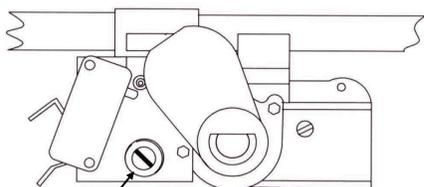

Fig. 3
5. Once the pilot is lit, locate the pilot adjustment screw on the lower left hand side of the oven thermostat control. See Fig. 3